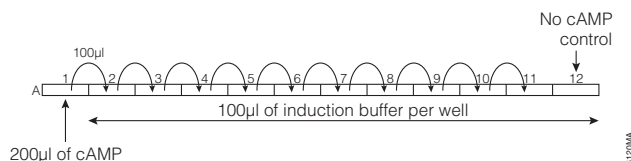

Figure 5. Dilution scheme for preparation of cAMP standards.
3. Perform a serial twofold dilution by transferring 100µl from well A1 to well A2 in column 2 with a pipette, pipetting to mix. Transfer 100µl to well A3. Repeat for wells A4 through A11. See Figure 5. Discard the extra 100µl from well A11. Do not add cAMP solution to the no-cAMP control reactions in well A12.